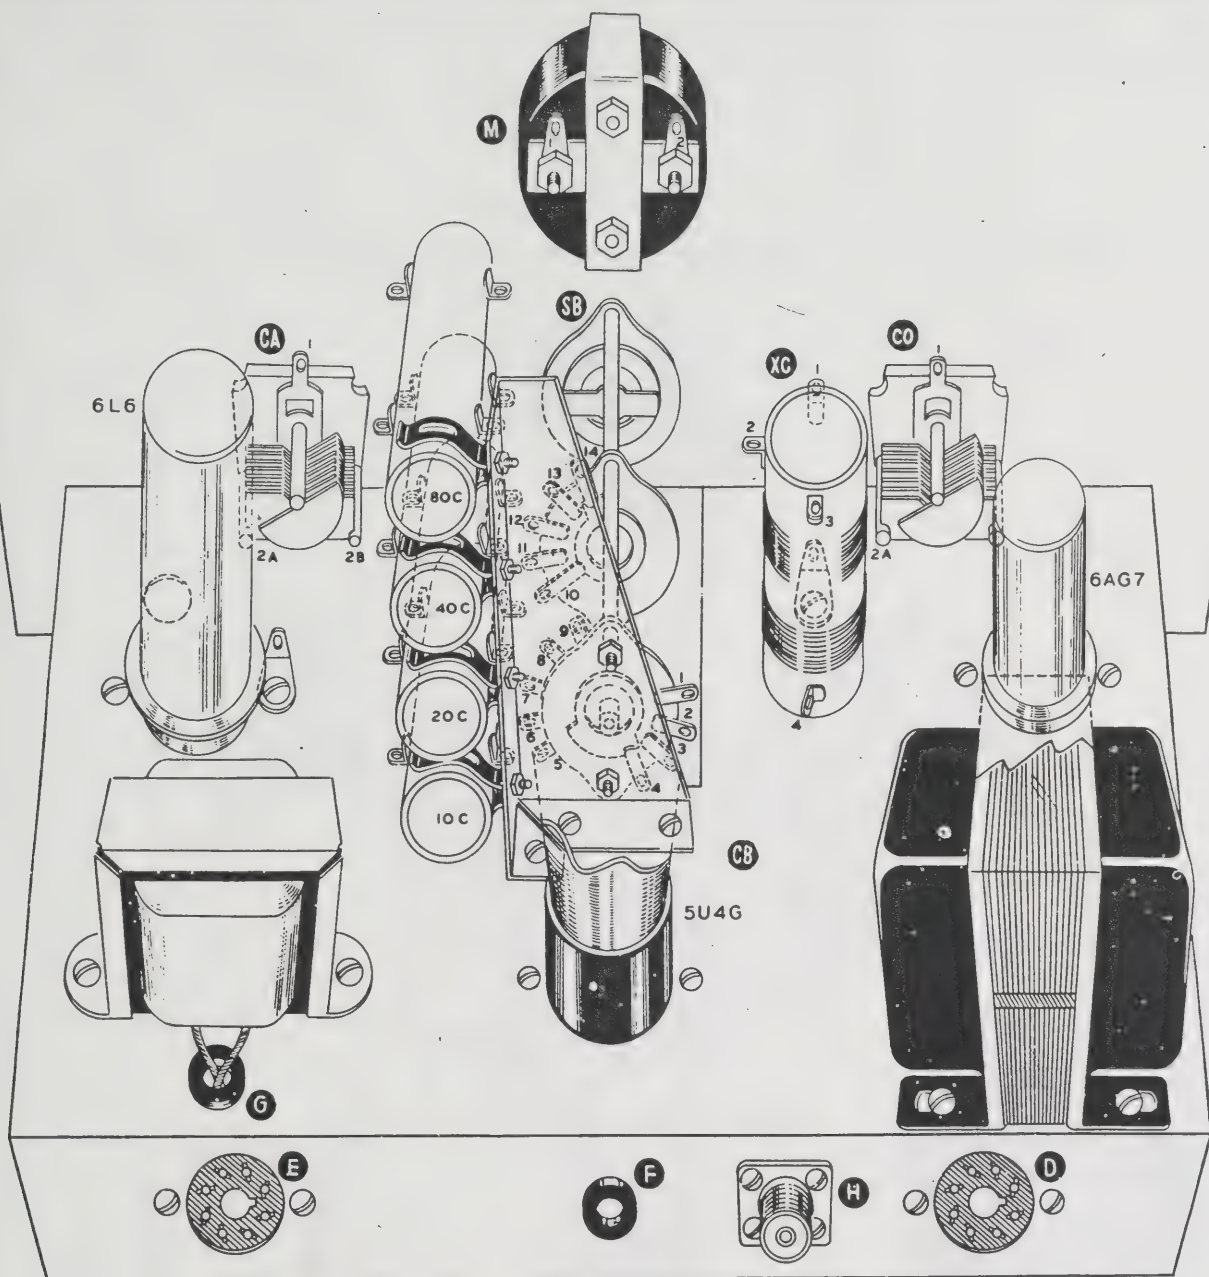

Fig. 2
- ( ) Mount the oscillator coil as shown in Figure 2 placing a solder lug under the head of the screw. Use a lockwasher and nut on the underside of the chassis.
- ( ) Mount the oscillator and amplifier variable tuning condensers CO and CA on the panel as shown in Figure 2, using round head 6-32 screws. *a control lockwasher behind the panel and a control flatwasher and nut on the front. see fig 3 for parts.*
- ( ) By referring to Figure 2 and Pictorial 2, you will note that the coil bracket CB anchors the rear end of the band switch as well as supporting the amplifier coils. Slide the holes in the flat portion of the coil bracket over the two screws protruding from the rear of the band switch and secure using 5-40 nuts and lockwashers furnished.
- ( ) Mount the four coil clamps on the coil bracket as shown in Figure 2.